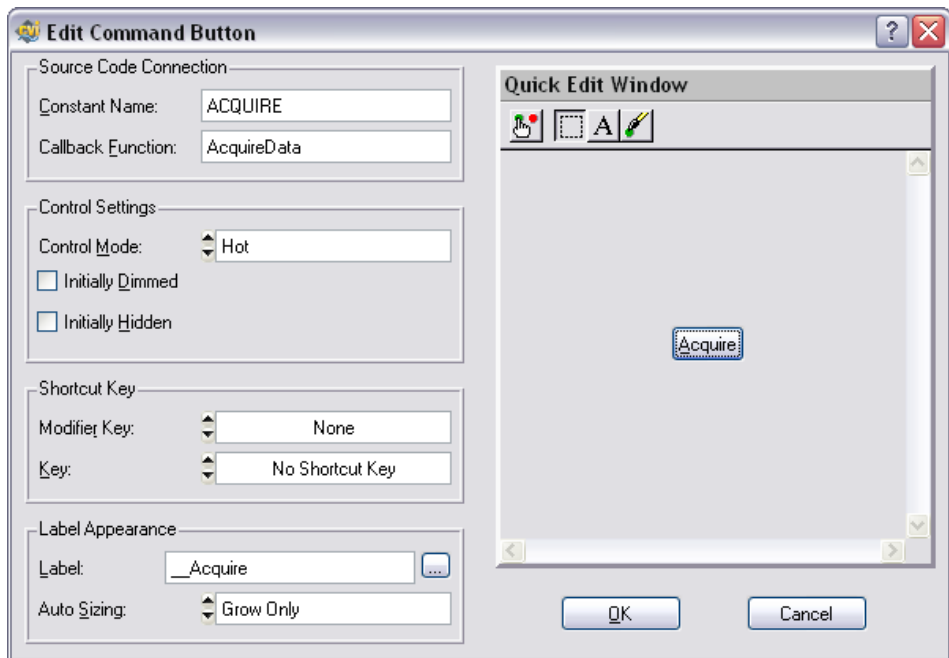

Figure 3-2. Edit Command Button Dialog Box
5. Verify the Edit Command Button dialog box matches the one shown in Figure 3-2 and then click **OK**.